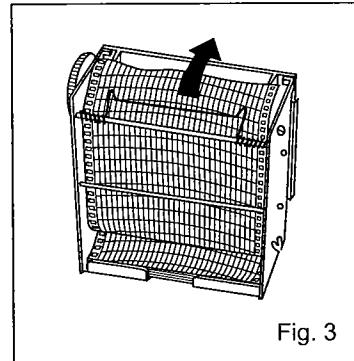

Fig. 3
4. Set the chart according to the mark of day and time. (Fig. 3)